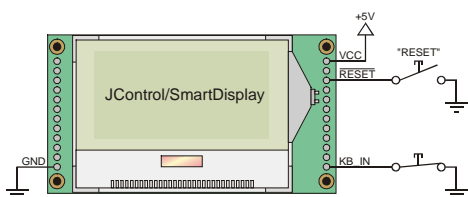

Fig. 5: Entering the System Download Mode
- (3) The system download mode may be enforced by pulling Pin 13 (GPIO #9/KB_IN) to GND while resetting the device (as shown in Fig. 5). Refer to the chapter covering the Analog Keyboard.
- (4) The mode may also be started by software calling the `run()`-Method of an instance of the built-in class `jcontrol.system.Download`.